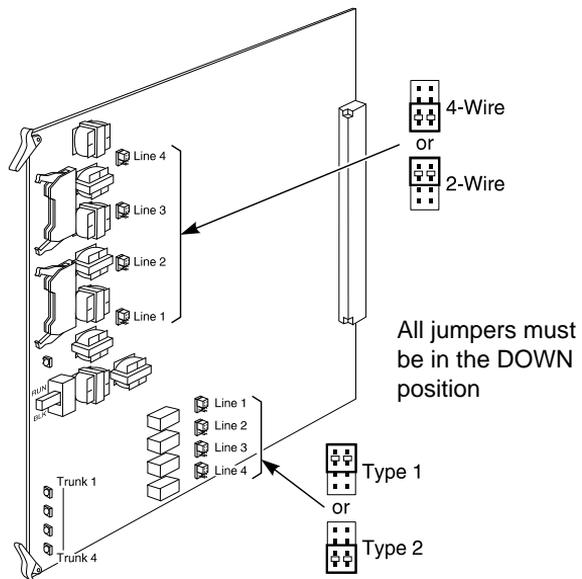

Figure 3-14 TIE LINE PCB SETUP FOR LOOP BACK TESTING
1. Set the jumpers on the tie line PCB for 4-Wire, Type 2 (jumpers must be in the down position). See Figure 3-14.